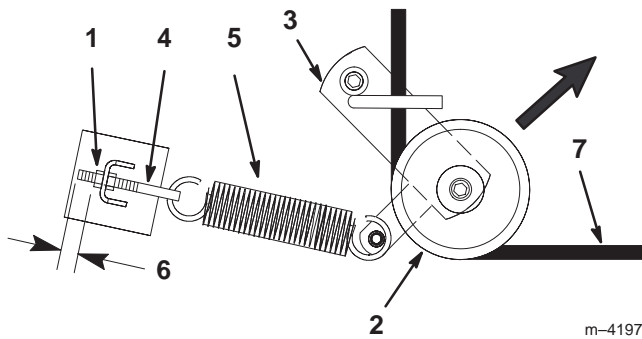

Figure 44
4. Pull the idler pulley in the direction shown in Figure 44 and roll the belt off of the pulleys.
5. Route the new belt through the idler arm and around the idler pulley (Fig. 44).
6. Pull the idler pulley in the direction shown in Figure 44 and route the belt onto the other pulleys (Fig. 45).
Note: Check to ensure that the length of exposed thread on the spring eye bolt is 1/8 in. (3 mm) (Fig. 44).